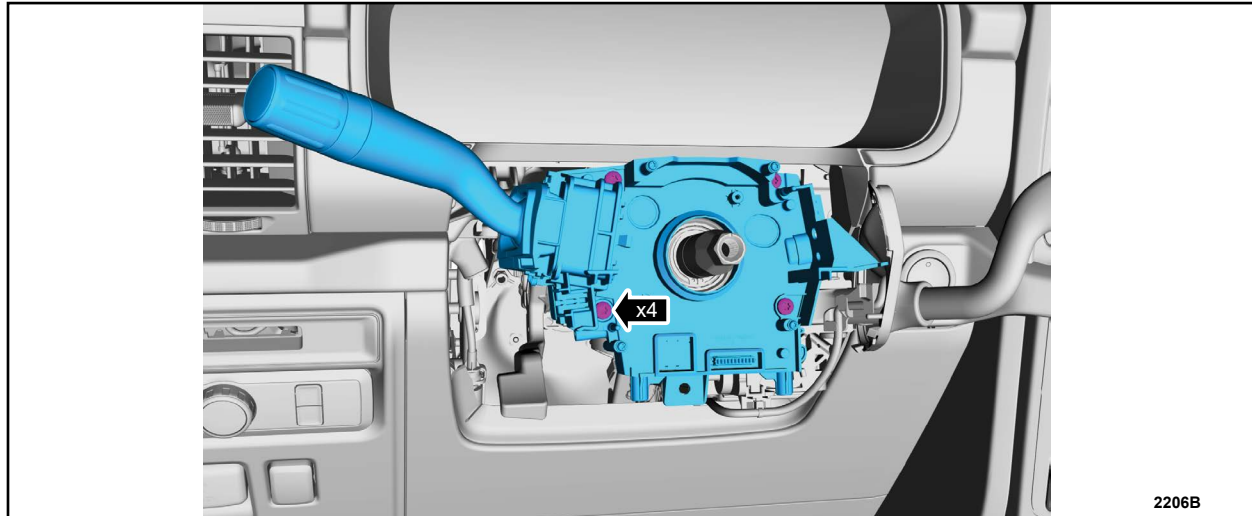

FIGURE 14
8. Remove the retainers and the SCCM. See Figure 14.